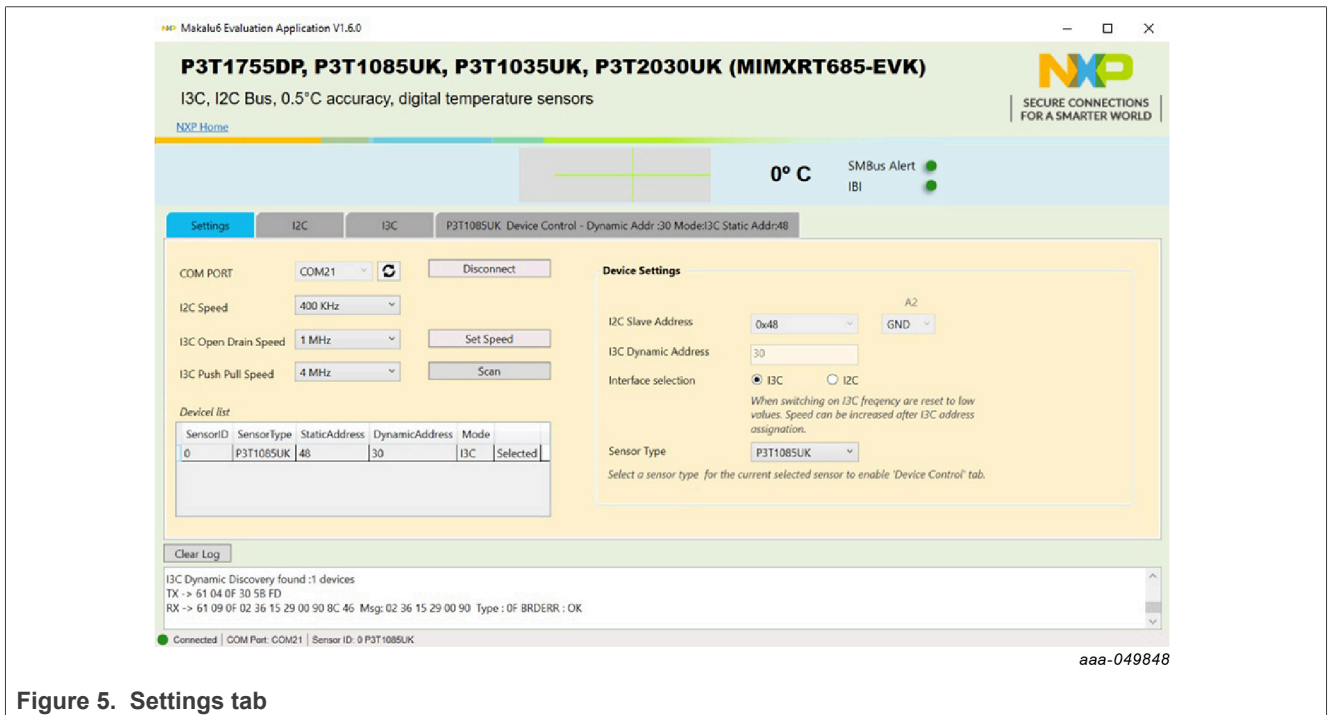

Figure 5. Settings tab
1. As shown in Figure 5, click “Connect” button to connect MIMXRT685-EVK board